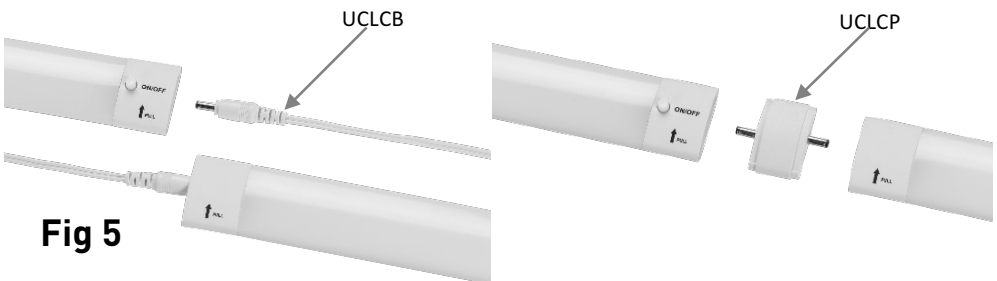

Fig 5
- Link cables and inline coupler (available separately - code: UCLCB, UCLCP) can be used between multiple fittings up to a maximum 36W per circuit and up to 3m when connected in series (see Fig 5 and 6)